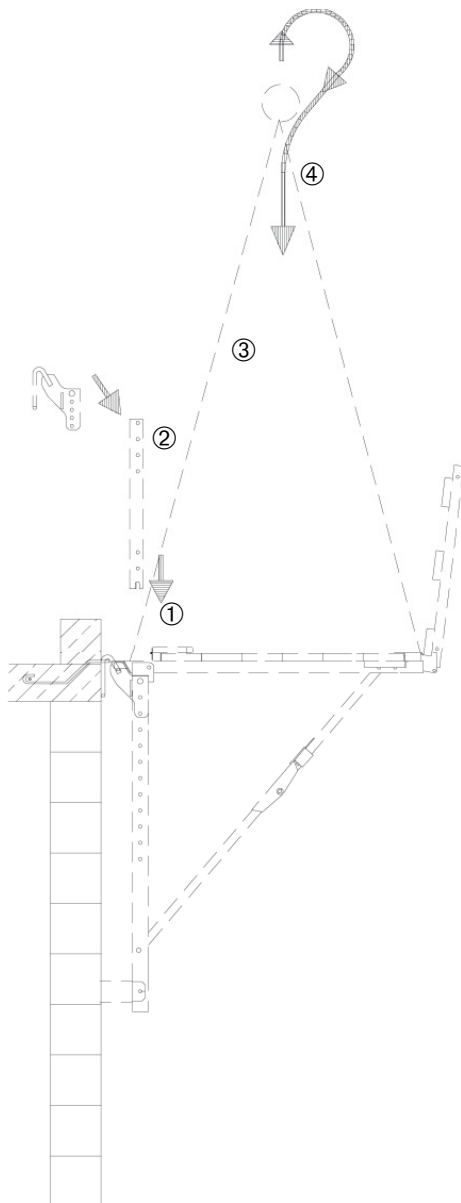

Fig. 15.1
The below step numbers also refer to the numbers in fig. 15.1
1. Make sure the fold-up plank is folded back as shown in fig. 15.1.
4. Fly the platform to where it is needed for suspension (Fig. 15.1).